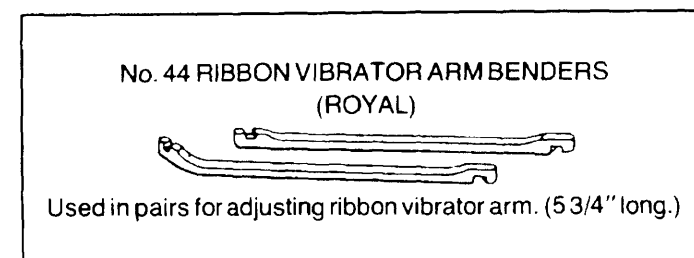

Fig. 4-18. Special tools for the typewriter repair industry can't be purchased in your local hardware store (courtesy of Ames Supply Company).
- ☐ Ribbon vibrator arm benders (Fig. 4-18).